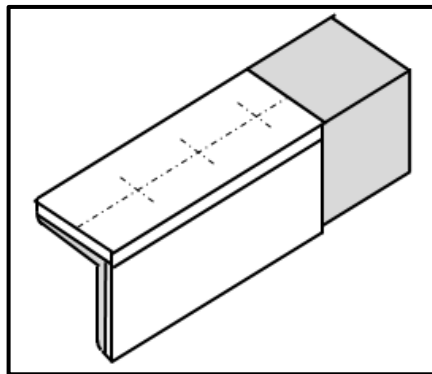

FIGURE 5.3.1
5.3 Identify the templates shown in FIGURES 5.3.1–5.3.3 below.